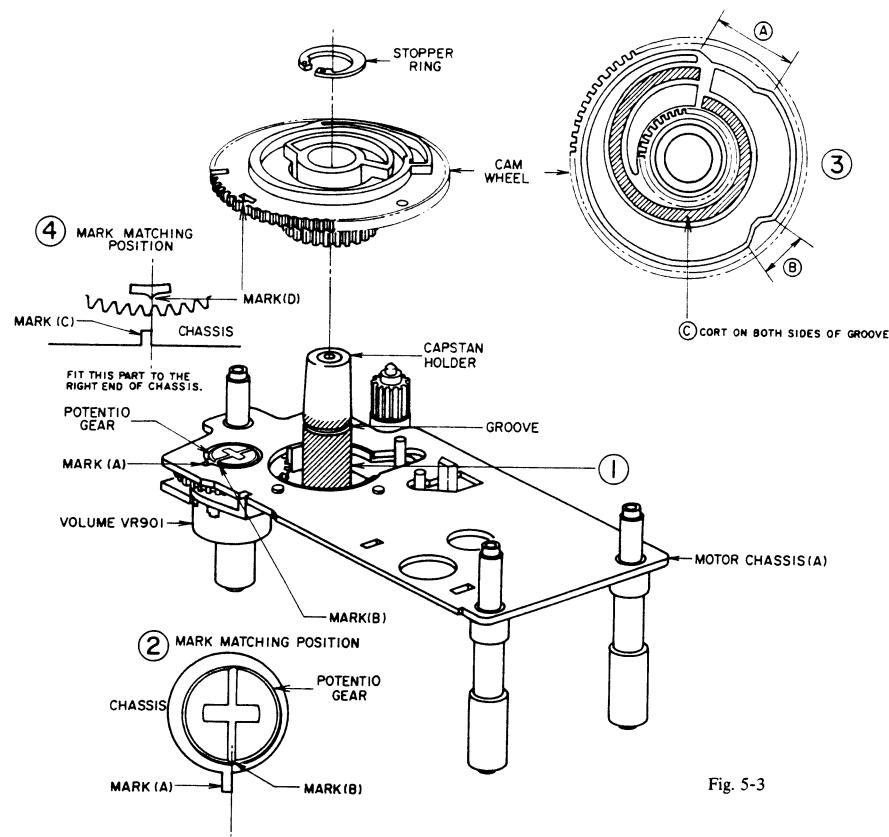

Fig. 5-3
Apply Molybdenum coat on the area of 360° from the bottom to the upside 2mm of groove as shown in the figure. (Fig. 5-3-①)
Fit the right end of Mark (A) to the center of Mark (B) as shown in the figure. (Fig. 5-3-②)
- 3) Apply the Molybdenum coat on ④, ⑧ and ⑨ shown in Fig. 5-3-③.
When the cam wheel is set properly, fit the center of Mark (D) to the right end of Mark (C). (Fig. 5-3-④)